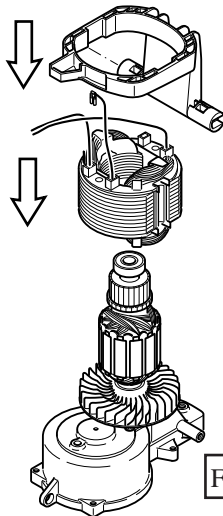

Fig. 29
2. Assemble field and lever to armature as illustrated in Fig. 29. Now the motor unit has been completed.